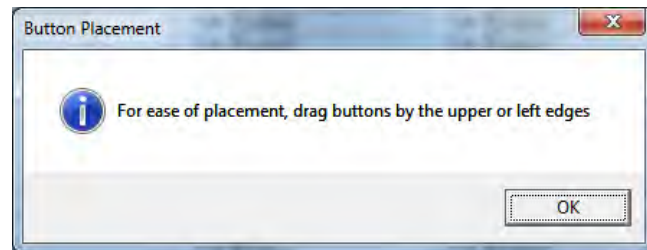

Figure 5 Button Placement
- From the screen that the button has been placed, take your mouse pointer and left click and hold the upper left corner of the button and drag it to the desired location. Note: Dragging buttons from another area may move the text on the button or cause other issues. A message will appear for the first time as shown in figure 5.
8. From the screen that the button has been placed, take your mouse pointer and left click and hold the upper left corner of the button and drag it to the desired location. Note: Dragging buttons from another area may move the text on the button or cause other issues. See Figure 5.